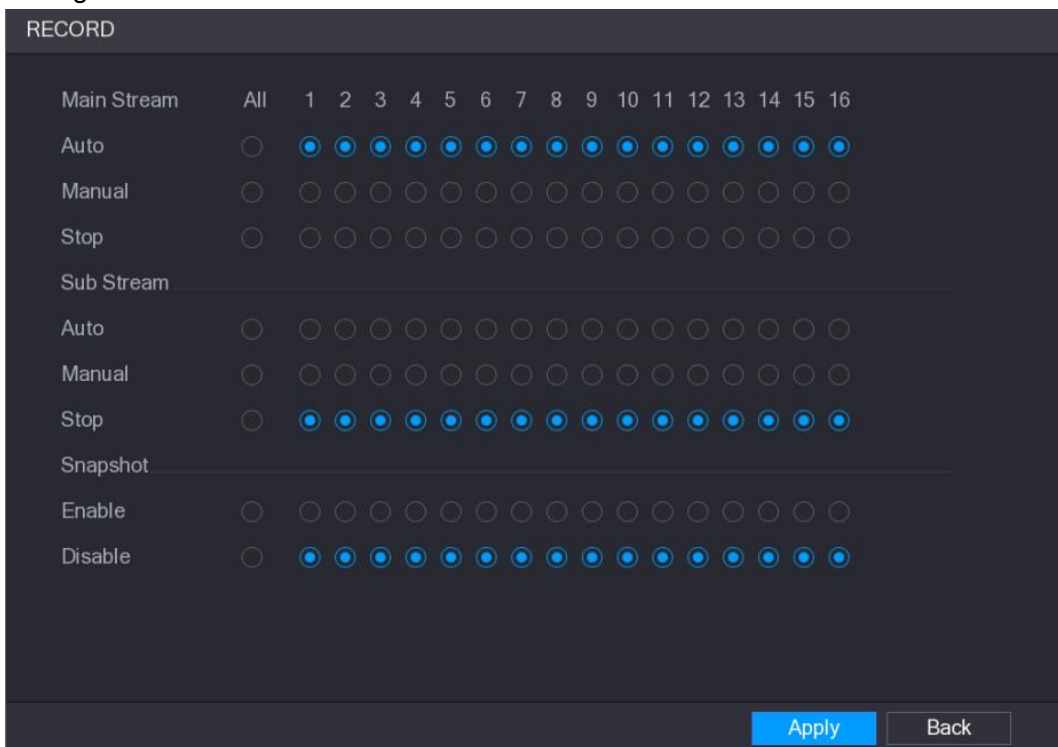

Figure 5-93
Step 1 Right-click on the live view screen, the shortcut menu is displayed. On the shortcut menu, select **Manual > Record Control**. The **RECORD** interface is displayed, see Figure 5-93.